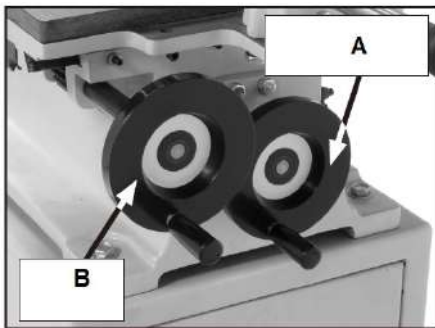

Fig 8
1. Move the forward/backward handwheel (A Fig 8) to move the table toward or away from the operator.
2. Move the left/right handwheel (B Fig 8) to move the table horizontally.